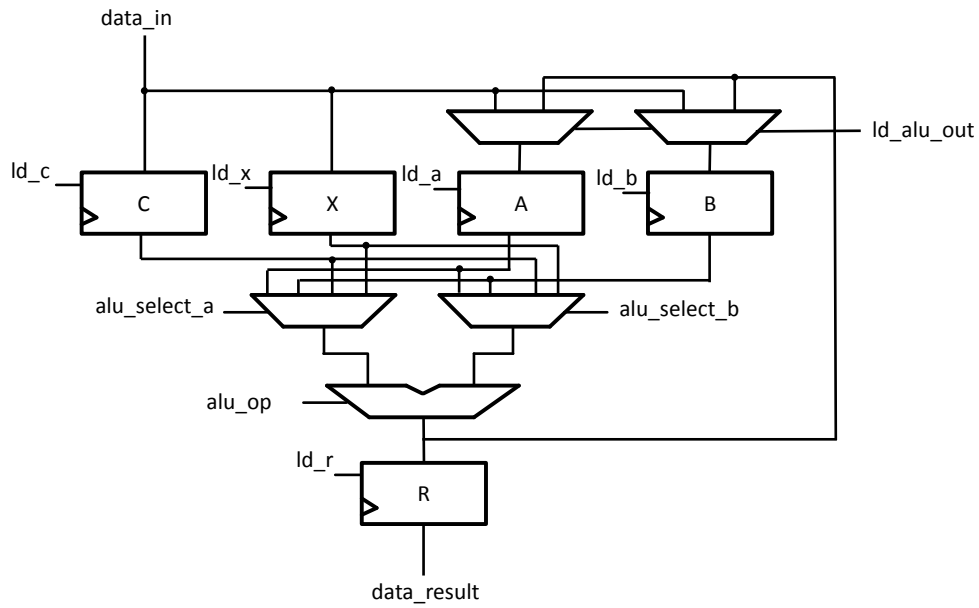

Figure 4: Block diagram of datapath.
Figure 4 shows the block diagram of the datapath you will build. Resets are not shown, but do not forget them. The datapath will carry 8-bit unsigned values. Assume that the input values are small enough to not cause any overflows at any point in the computation, i.e., no results will exceed $2^8 - 1 = 255$. The ALU needs only to perform addition and multiplication, but you could use a variation of the ALU you built previously to have more operations available for solving other equations if you wish to try some things on your own. There are four registers R_x , R_A , R_B and R_C used at the start to store the values of x , A , B and C , respectively. The registers R_A and R_B can be overwritten during the computation. There is one output register, R_R , that captures the output of the ALU and displays the value in binary on the LEDs and in hex on the HEX displays. Two 8-bit-wide, 4-to-1 multiplexers at the inputs to the ALU are used to select which register values are input to the ALU.
- (c) Read the datapath code and identify all the components shown in Figure 4 when looking at the datapath module.
- (d) Identify all the control signals shown in Figure 4 and where they are generated in the control module. You should see that all the control signals are generated by the FSM in the control module.
- (f) Which states do the actual computation? Identify those states and find the sequence of control signals. Observe how the computation is done by using Figure 4 and seeing how that sequence of control signals does the required operation.